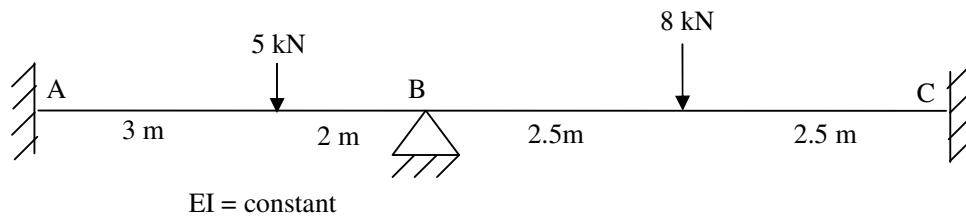

Figure -1
- Q.1** (a) Analyze the continuous beam as shown in **figure-1** by Slope Deflection Method. Find the end moments of the beam and draw bending moment diagram. **07**
- Q.3** (a) Analyze the beam shown in **figure (2)** by Moment distribution method and draw only the bending moment diagram. **07**
- (b) Analyze the frame as shown in **figure (3)** by Moment Distribution Method and draw only the bending moment diagram. **07**